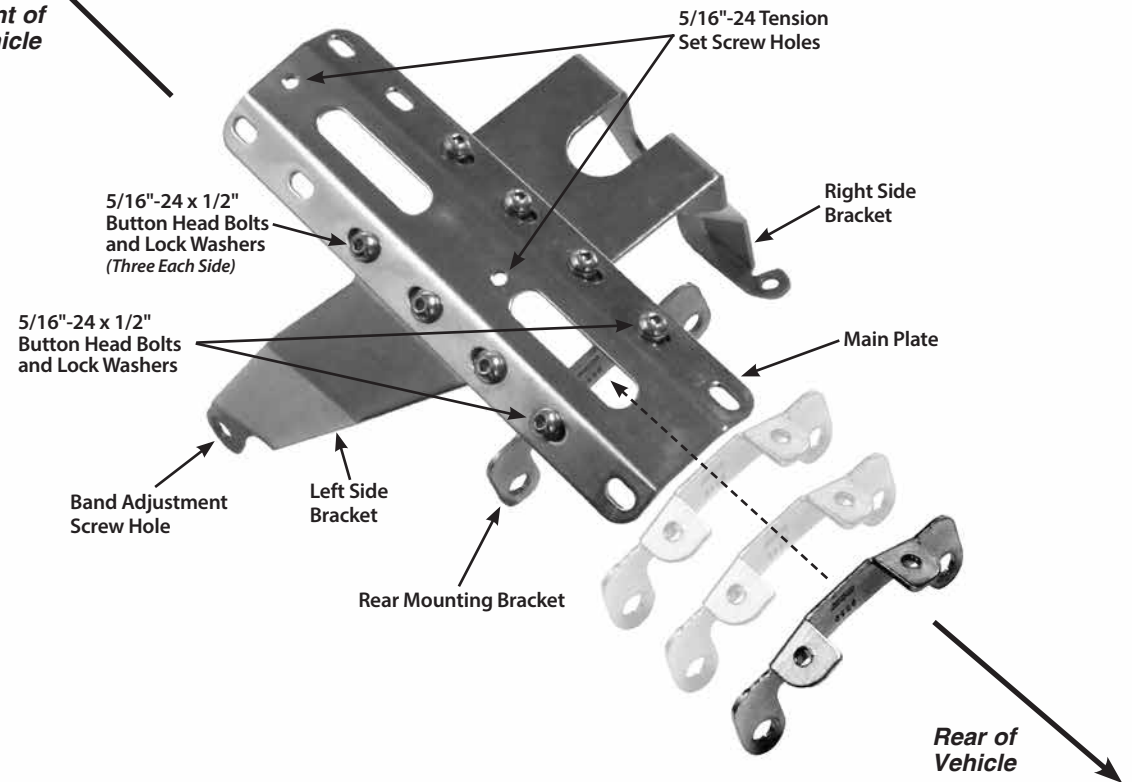

Fig. 2
The left side bracket and right side bracket bolt directly to the main plate. The first two pairs of holes at the very front of the main plate will not be used, and the side brackets will bolt into the 3rd, 4th, and 5th pairs of holes from the front of the main plate. Attach the side brackets to the underside of the main plate as shown in **Fig. 2**, using three 5/16"-24 x 1/2" button head bolts and lock washers on each side. **DO NOT TIGHTEN AT THIS TIME.**
Step 3: Attach the rear mounting bracket to the underside of the main plate with two 5/16"-24 x 1/2" button head bolts and lock washers, using the second pair of holes from the back. The bracket ears should point to the rear end of the transmission (toward the rear axle) as shown in **Fig. 2**. **DO NOT TIGHTEN AT THIS TIME.**